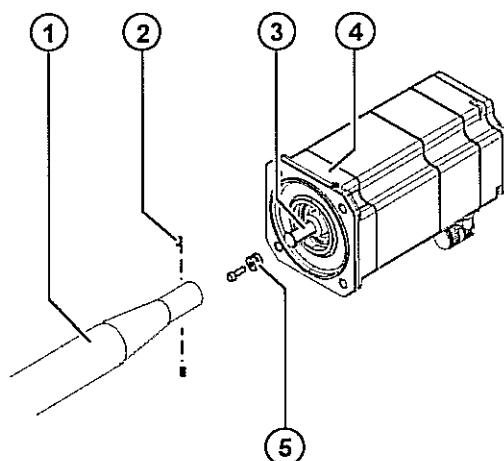

Fig. 12-11: Motor with connecting shaft
1. Remove all protective coatings and oil from the new motor A4 (>>> Fig. 12-11).